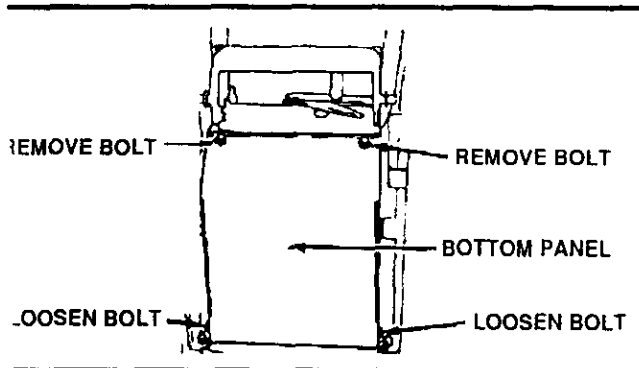

FIG. 13
- Remove the bottom panel (See FIG. 13).